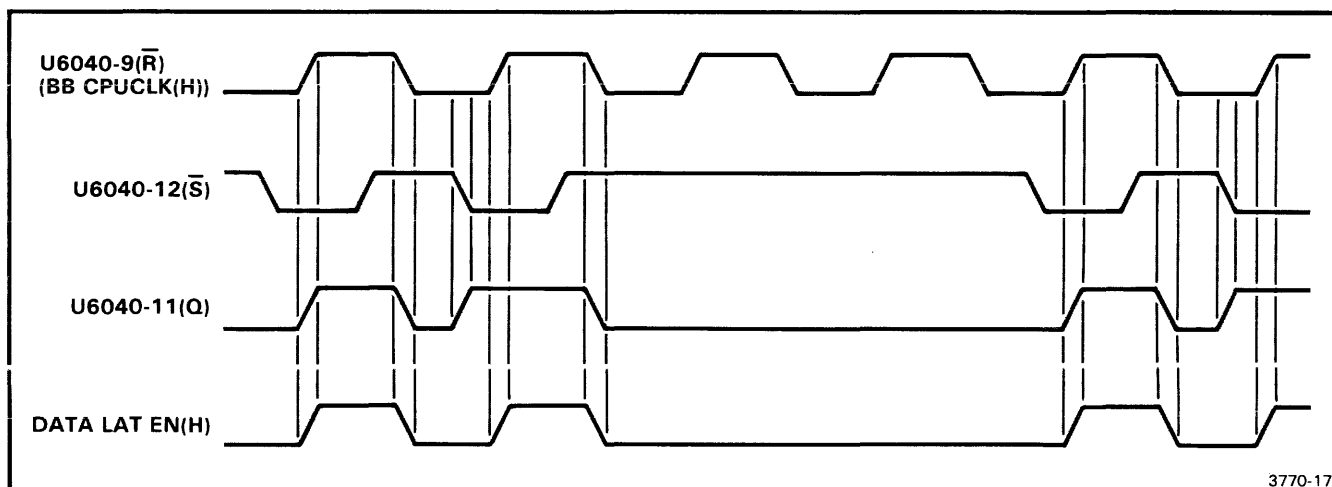

Fig. 4-9. DATA LAT EN(H) timing.
DATA LAT EN(H). The DATA LAT EN(H) signal determines whether Internal Data Bus information is latched to the Shared Data Bus. DATA LAT EN(H) is asserted via U5050D, which is controlled by BB CPUCLK(H) and the $\bar{S}$ - $\bar{R}$ Latch configuration, (U6040C and U6040D). $\bar{R}$ is represented by pin 9 of U6040C, $\bar{S}$ by pin 12 of U6040D, and Q by pin 11 of U6040D. Refer to Fig. 4-9 for R-S Latch configuration and DATA LAT EN(H) assertion.